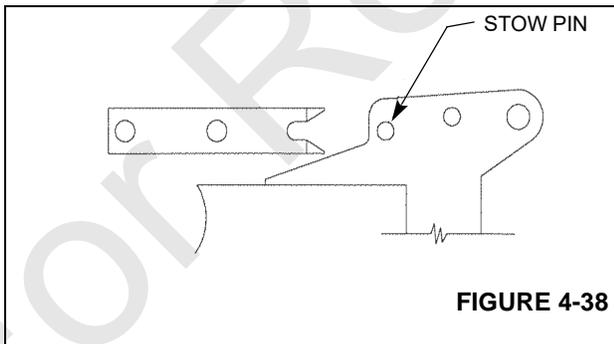

FIGURE 4-38
7. Observe the horizontal alignment of the slot in the ear assemblies and the stow pin in the jib. Horizontal adjustment of the stow ears is provided by oversize bolt holes in the stow ear. Move the ears in or out to achieve proper alignment. Position the top ear so it holds the top of the jib in toward the boom and the bottom ear so that it holds the bottom of the jib away from the bottom of the boom, see Figure 4-38.